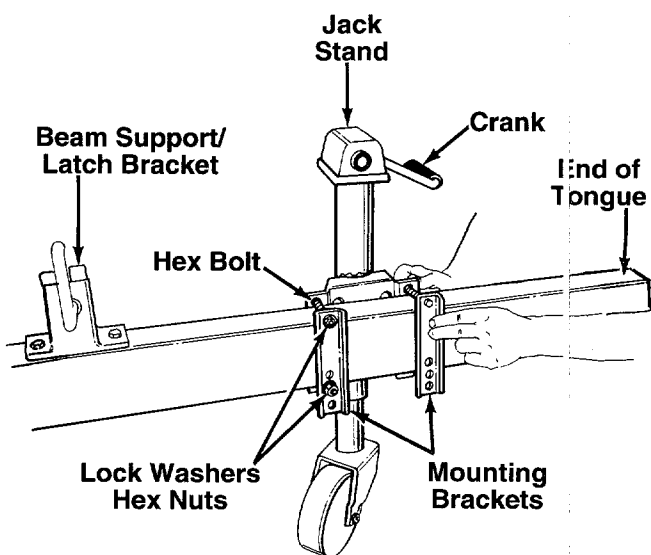

FIGURE 5.
2. Place jack stand halfway between beam support/latch bracket and end of tongue as shown in figure 5.
4. Place jack stand mounting brackets over hex bolts on opposite side of tongue. Flat sides of mounting brackets are against tongue. Secure with lock washers and hex nuts. See figure 5.